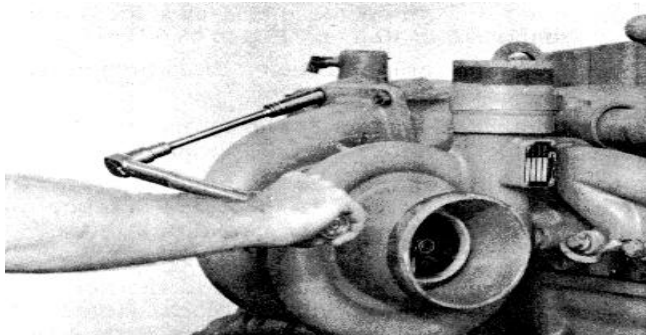

Fig. 14-81. Install The Turbocharger Onto The Exhaust Manifold.
3. Install the turbocharger onto the exhaust manifold. Tighten the mounting nuts to 20 to 25 ft.-lbs. [27 to 34 N•m] torque, Fig. 14-81.